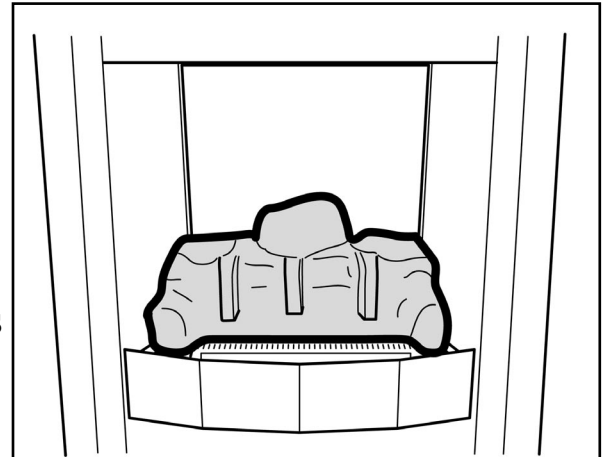

Figure 21 Rear Base Pebble Position
1. Place the rear base pebble in the firebox. It should rest on the ledges at the rear sides of the burner unit. See figure 21. When located gently move the rear base pebble so that it is as far forward as possible. The amount of movement will be negligible.